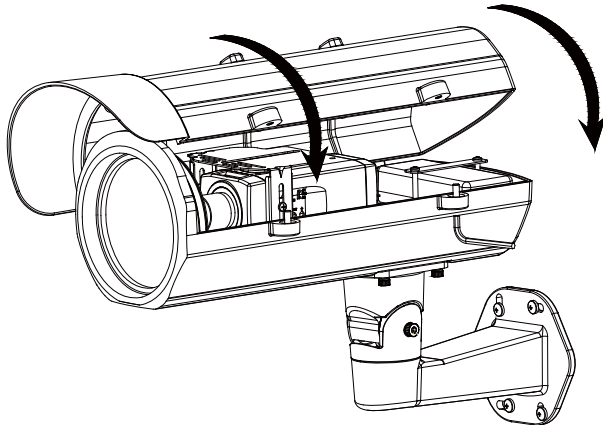

Fig. 12
3.9 Replace the side cover and tighten the screws (Fig 12, 13).